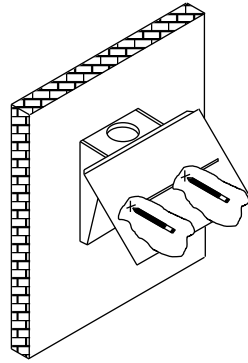

Fig 7
5. Mark the two other screw positions (Fig 7).